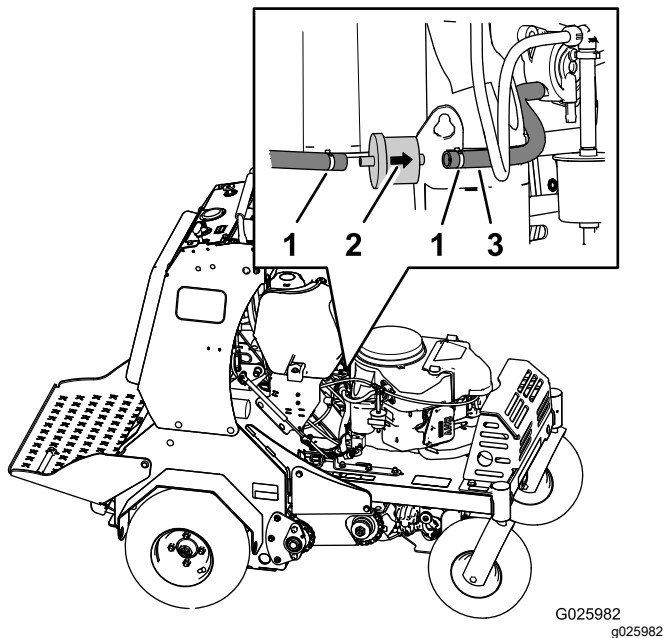

Figure 48
3. Squeeze the ends of the hose clamps together and slide them away from the filter (Figure 48).
4. Remove the filter from the fuel hoses (Figure 48).
5. Install a new filter with the flow-direction arrow aligned as illustrated in Figure 48.
6. Align the hose clamps over the hose and the fuel-filter fittings (Figure 48).